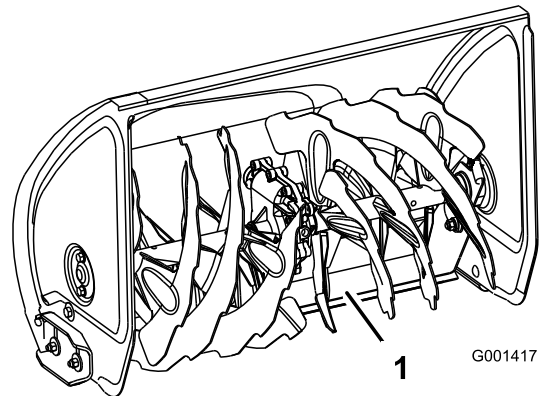

Figure 42
4. Push down on the handles to allow the pivoting scraper to move fully forward, then set the front of the snowthrower down so that the front edge of the pivoting scraper contacts the ground (Figure 42).